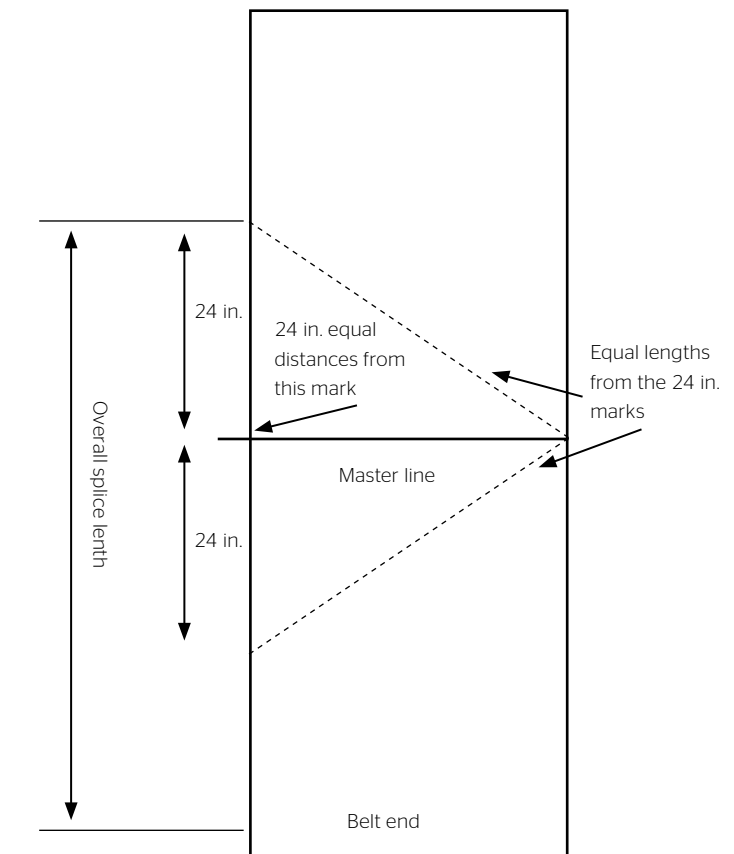

Fig. 3-9: Triangulation Method
Triangulation (Fig. 3-9)
2. From each end of the 4 ft. (1200mm) line measure equal diagonal lengths to the opposite edge and mark (Fig. 3-9). Draw the master line.